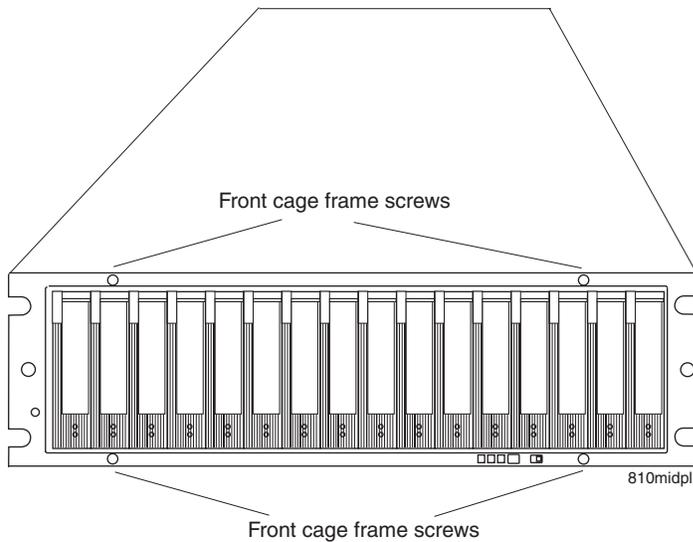

Figure 110. Front cage frame screw locations
10. Use a #1 Phillips screwdriver to loosen the four front cage frame screws on the midplane, as shown in Figure 110.
17. Tighten the four front cage frame screws. See Figure 110 on page 172.